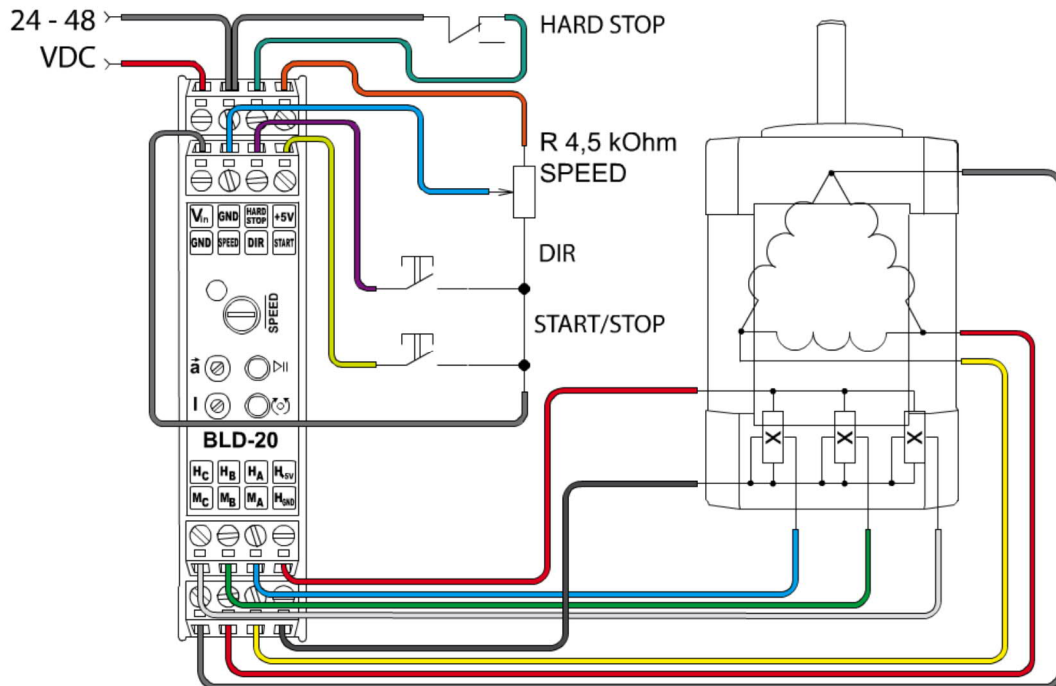

Fig.3 Connection diagram.
The connection diagram is shown in Fig. 3.
2. Connect external control elements according to the schemes in Fig. 3: